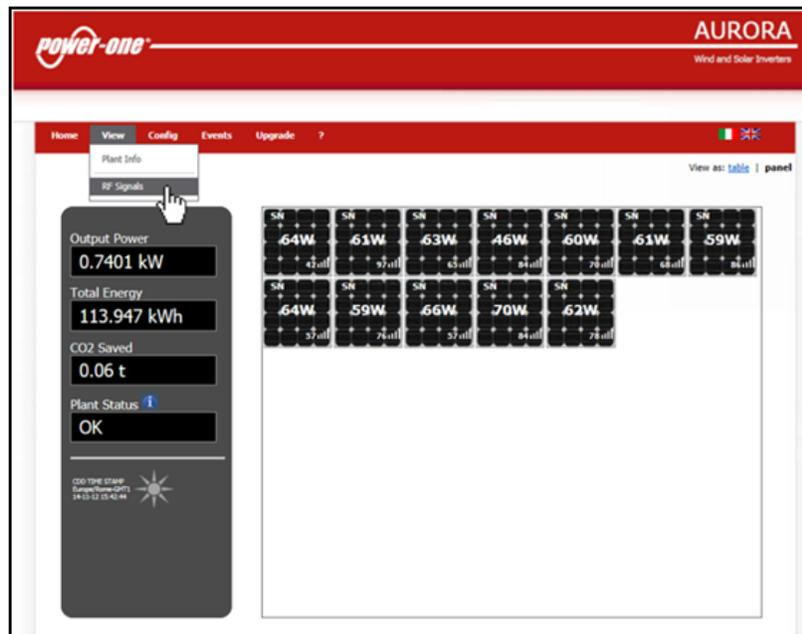

Figure 3-2 CDD webserver home page "View" → "RF Signals" options
2. This leads to the CDD web server home page which displays all the MICRO inverters in the system and their current energy output. Click on "View" and "RF Signals" as shown in Figure 3-2.